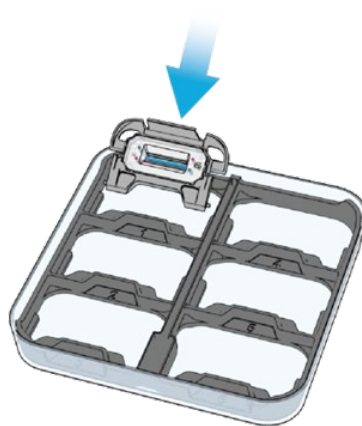

Figure 8: Place chips by sliding under the tab of the Chip Cradle.
3. Open the chip packaging carefully and then place the first chip into the cradle by sliding the back of the carrier under the tabs on the cradle (See Figure 8).